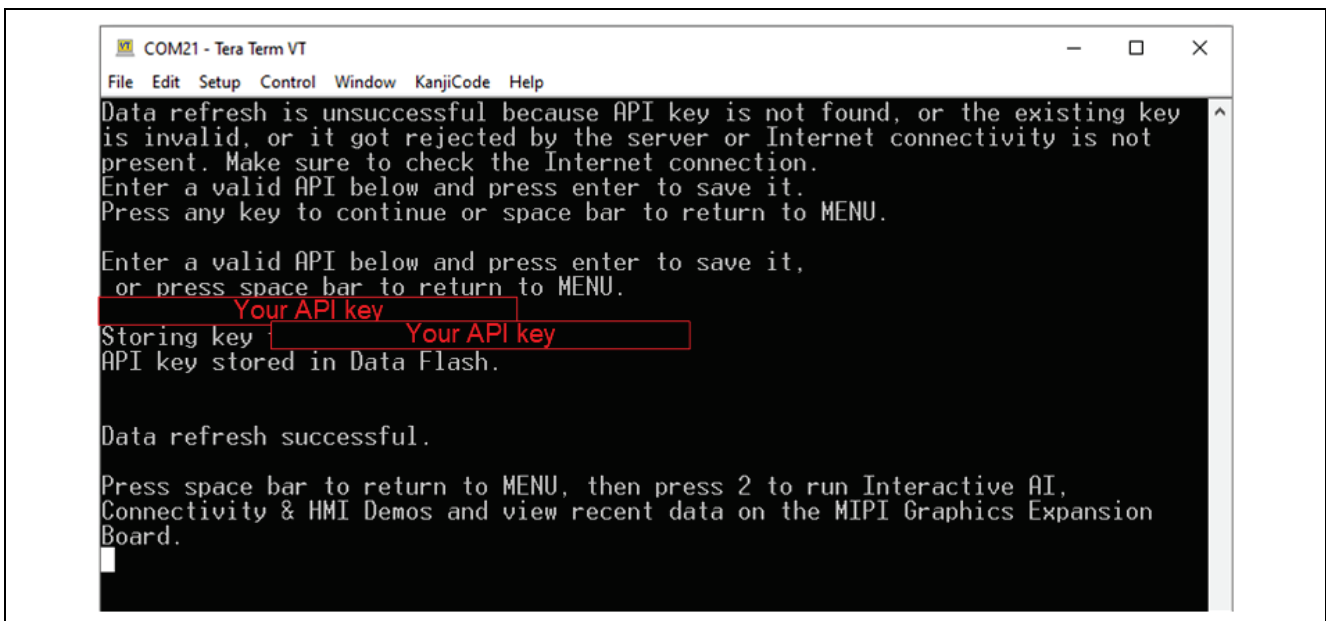

Figure 32. Entering Time Zone API Keys for the First Time
4. If the API key does not exist, the console display is as shown in Figure 32.